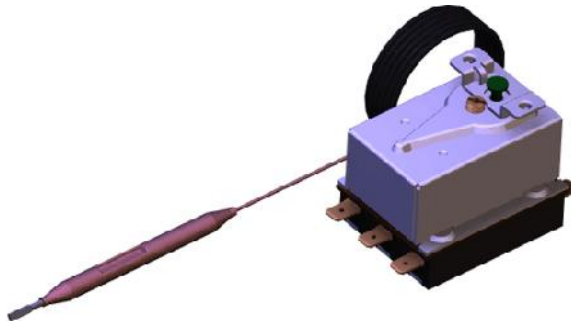

Figure 8
- Thermostats in the automation of the boiler (Figure 8)
As safety element thermostat is used as shown on figure 8, and it have function limit temperature of water in boiler, and its independent component. Temperature is limited to 90 degrees of Celsius. STB thermostat is located near display of automation, and its voltaic connected with it.